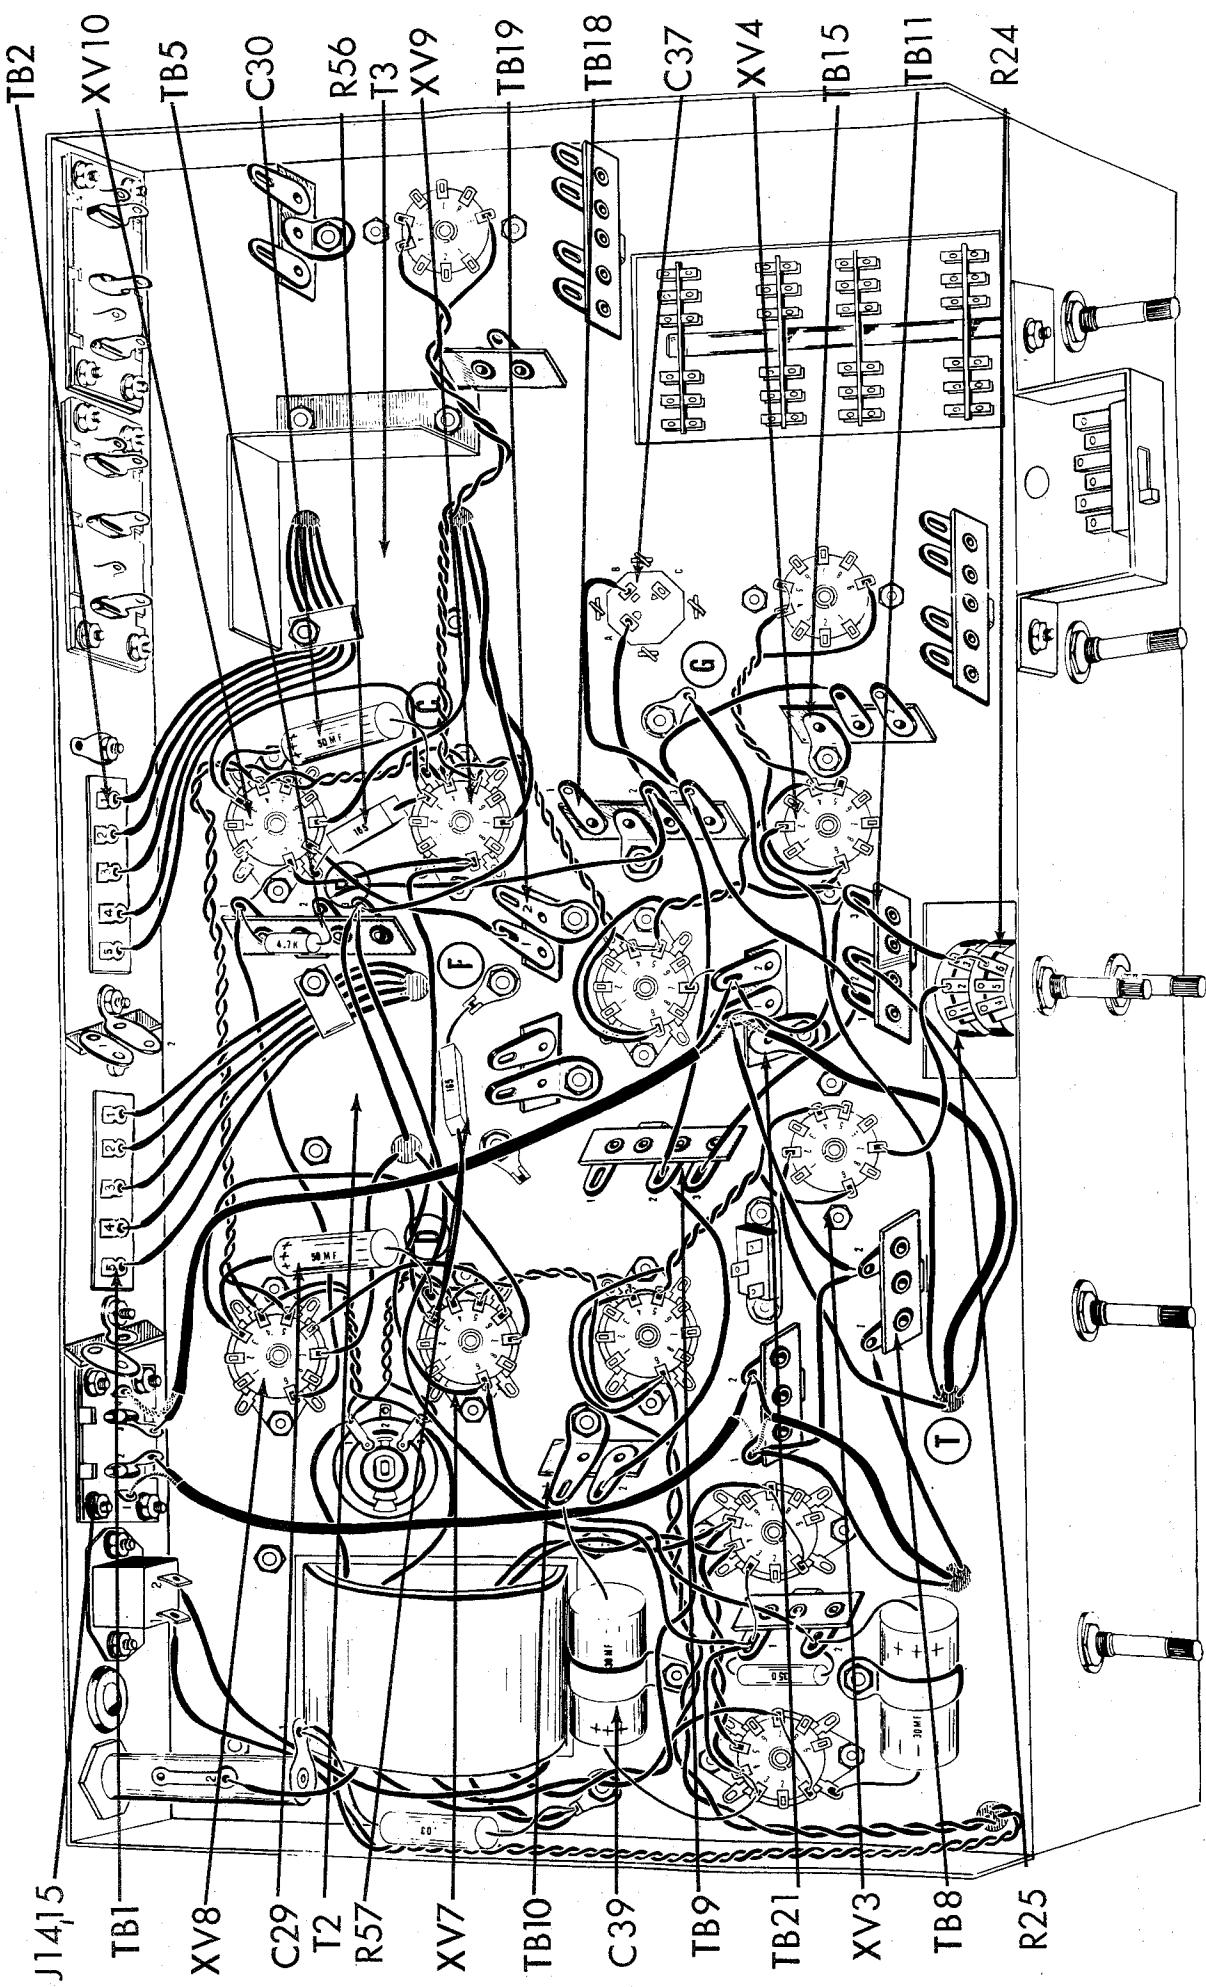

Fig. 8
1. () Fig. 8. Cut the negative (-) lead on the 30 mfd electrolytic capacitor, C39, to 1 1/4". Connect to TB10-1 (C).
2. () Fig. 8. From the output transformer, T2, connect the yellow lead to TB1-4 (C), the green lead to TB1-3 (S1), the brown lead to TB1-2 (S1), the black lead to TB1-1 (C), the red lead to TB5-3 (C), the blue lead to XV7-7 (S1), the brown-yellow lead to XV8-7 (S1), and the orange lead to TB1-5 (S1).
3. () Fig. 8. Connect a 3 1/2" piece of green wire from XV7-6 (C) to XV8-6 (C).
4. () Fig. 8. Connect a 3 1/2" piece of green wire from XV10-8 (C) to TB19-1 (C).
5. () Fig. 8. Cut all leads on two 50 mfd, 25 V, electrolytic capacitors, C29, and C30, to 1". Cover the positive (+) leads on both capacitors with a 3/4" piece of spaghetti. Connect the positive lead of one capacitor to XV10-3 (S2) and the negative (-) lead to ground lug "C" (S1) at XV9. Connect the positive (+) lead of the second capacitor to XV8-3 (S2) and the negative (-) lead to ground lug "D" (S1) at XV7.
6. () Fig. 8. Cut both leads on a 165Ω, 5 watt resistor, R56, to 3/4". Cover one lead with a 1/2" piece of spaghetti and connect XV9-3 (S2). Connect the other lead to ground lug "E" (S1) at XV10. Dress resistor away from surrounding wires.
7. () Fig. 8. From the output transformer, T3, connect the yellow lead to TB2-4 (C), the green lead to TB2-3 (S1), the brown lead to TB2-2 (S1), the black lead to TB2-1 (C), the red lead to TB5-3 (S3), the blue lead to XV9-7 (S1), the brown-yellow lead to XV10-7 (S1) and the orange lead to TB2-5 (S1).
8. () Fig. 8. Connect the brown lead from hole "T" to TB11-2 (C).
9. () Fig. 8. Connect a 2 1/2" piece of red wire from TB9-3(C) to TB11-1 (C).
10. () Fig. 8. Connect the outer shield from the single conductor cable (from hole "T") to TB21-1 (C) and the inner conductor to TB21-2 (C).
11. () Fig. 8. Connect a 3 1/2" piece of orange wire from TB9-2 (C) to TB18-2 (C).
12. () Fig. 8. Strip back the outer insulation 3/4" from one end of an 8"
13. () Fig. 8. Cut one lead on the 165Ω, 5 watt resistor, R57, to 1 1/2" and cover with a 1 1/4" piece of spaghetti. Connect this lead to XV7-3 (S2). Cut the other lead to 1/2" and connect to ground lug "F" (S1). Dress away from the surrounding wires.
14. () Fig. 8. Connect a 3 1/2" piece of black wire from TB8-2 (C) to TB21-1 (C).
15. () Fig. 8. Connect a 3" piece of black wire from TB21-1 (C) to TB11-3 (C).
16. () Fig. 8. Connect a 3 1/2" piece of black wire from TB11-3 (C) to ground lug "G" (C).
17. () Fig. 8. Connect the grey lead from hole "T" to XV4-2 (S1).
18. () Fig. 8. Connect a 4" piece of orange wire from TB10-2 (C) to TB9-2 (C).
19. () Fig. 8. Connect a 3 1/2" piece of red wire from TB11-1 (C) to TB18-3 (C).
20. () Fig. 8. Connect a 4 1/2" piece of red wire from TB18-3(C) to C37-B (C).
21. () Fig. 8. Connect a 3" piece of red wire from TB18-3 (C) to TB15-1 (C).
22. () Fig. 8. Connect a 3 1/2" piece of orange wire from TB18-2 (C) to C37-A (C).
23. () Fig. 8. Connect a 1" piece of bare wire to the dual concentric pots in the rectangular hole at the middle-front of the chassis. Connect from R24-6 (S1) to R25-3 (C).
24. () Fig. 8. Connect a 2" piece of black wire from R25-3 (S2) to TB11-3 (C).
25. () Fig. 8. Connect a 1 3/4" piece of green wire from R25-2 (S1) to XV3-7 (S1).